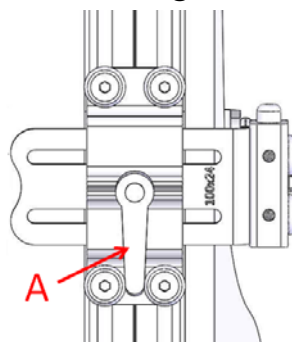

Figure 5-127
5.3.10.2 The trunk support can be removed from the seat by turning and releasing lever A. (Figure 5-127)